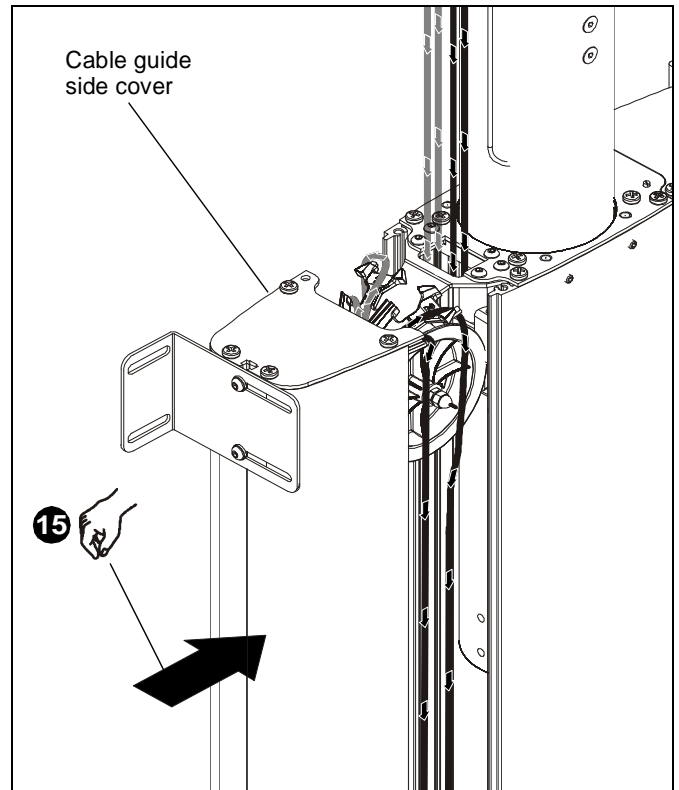

Figure 21
15. Slide cable guide side cover over CM2 mount lining up two holes in cable guide side cover with two holes in CM2 mount. (See Figure 21)